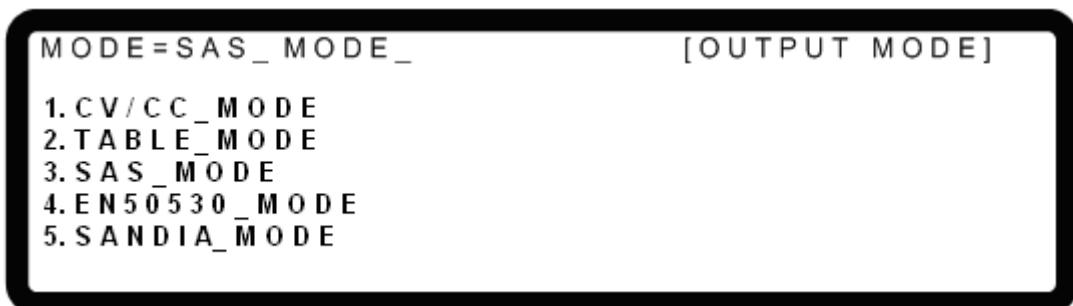

Figure 3-161
1. Use the numeric keys **0** - **2** or the “Rotary” (○) knob to select **SAS_MODE** as shown in Figure 3-161.